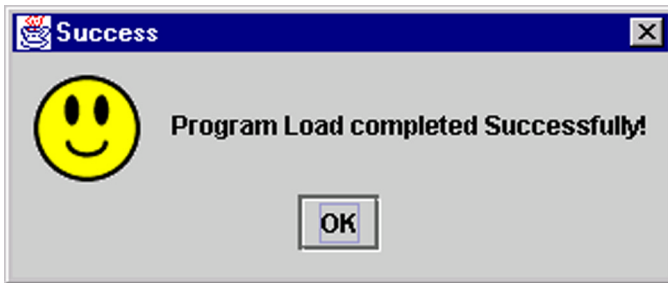

Figure 45. Done Message
- 7. When the program download has been completed, the message shown in Figure 45 appears.